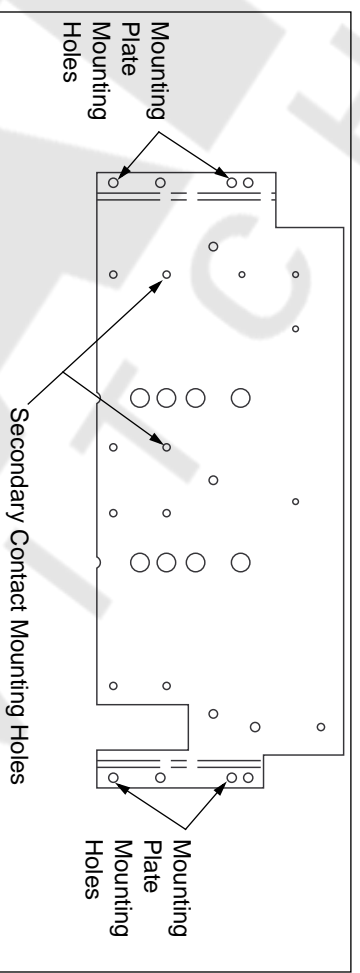
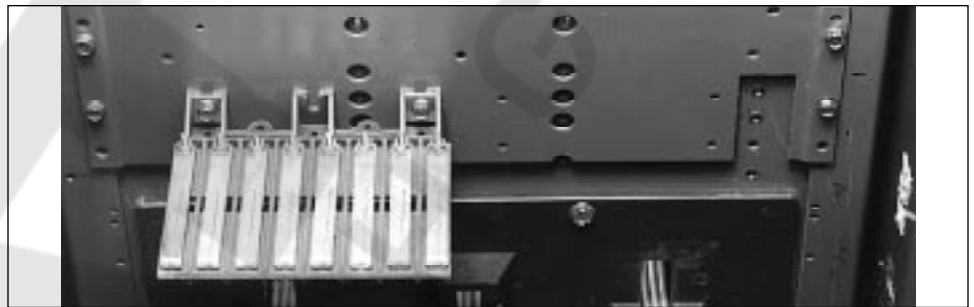

Figure 14: Stationary secondary mounting plate (front side)
Figure 16: Stationary secondary contact mounted in the circuit breaker cell
Refer to Figure 16 to determine if the stationary secondary mounting plate and fingers are in place. If they are present, go to step 4. If the stationary secondary fingers are not present, proceed as follows to mount them:
1. Determine which is the front side of the stationary secondary mounting plate by referring to Figure 14.
3. Mount the mounting plate in the circuit breaker cell using the hardware provided. Use the mounting holes indicated in Figure 14. Figure 16 depicts a stationary secondary contact properly mounted in a circuit breaker cell.